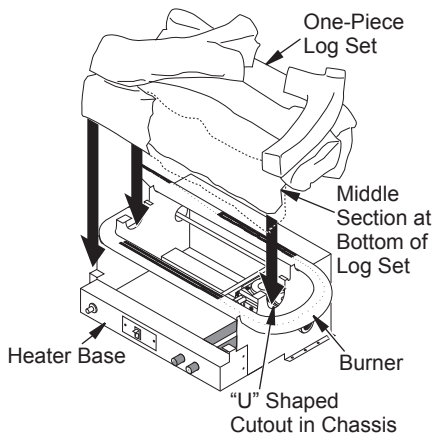
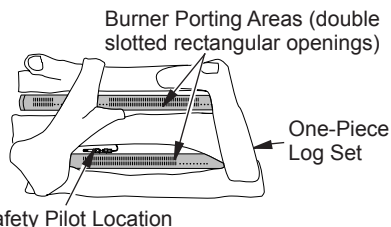

Figure 6 - Installing One-Piece Stove Log Set
Figure 7 - Top View of One-Piece Log Set on Gas Log Heater
4. Set one-piece log on heater base as shown in Figure 6. Make sure middle section at bottom of log is seated into "U" shaped cutout in center of heater base. Log will fit securely on base. **IMPORTANT:** Make sure log does not cover any burner ports and does not touch the stove cavity (see Figure 7).